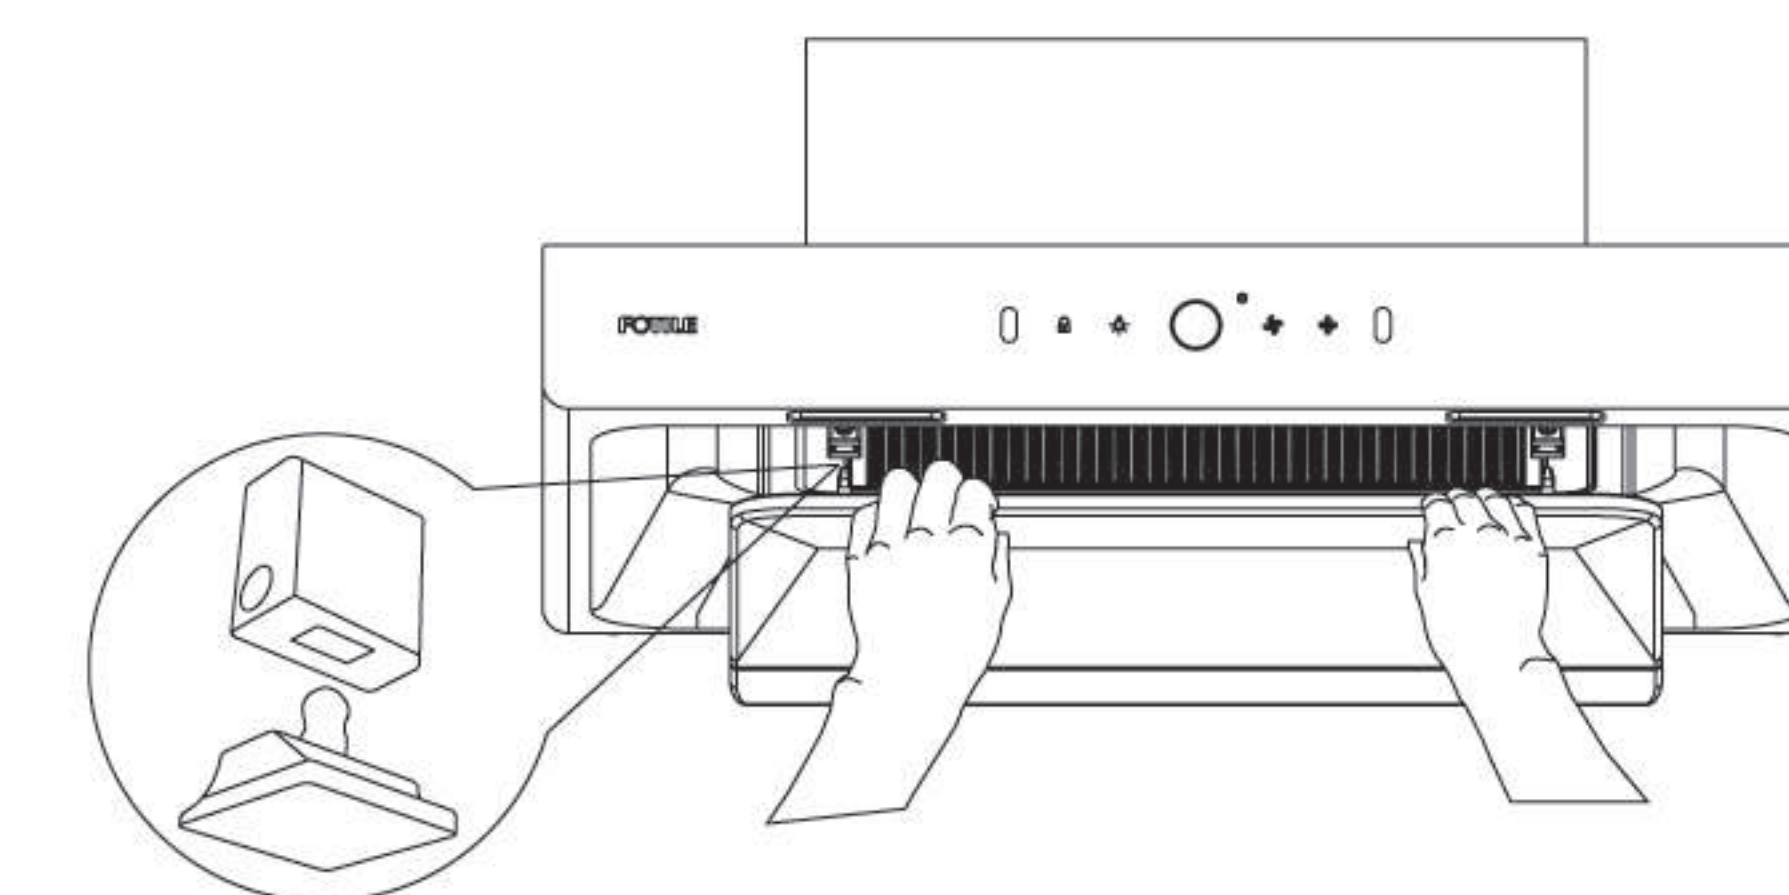
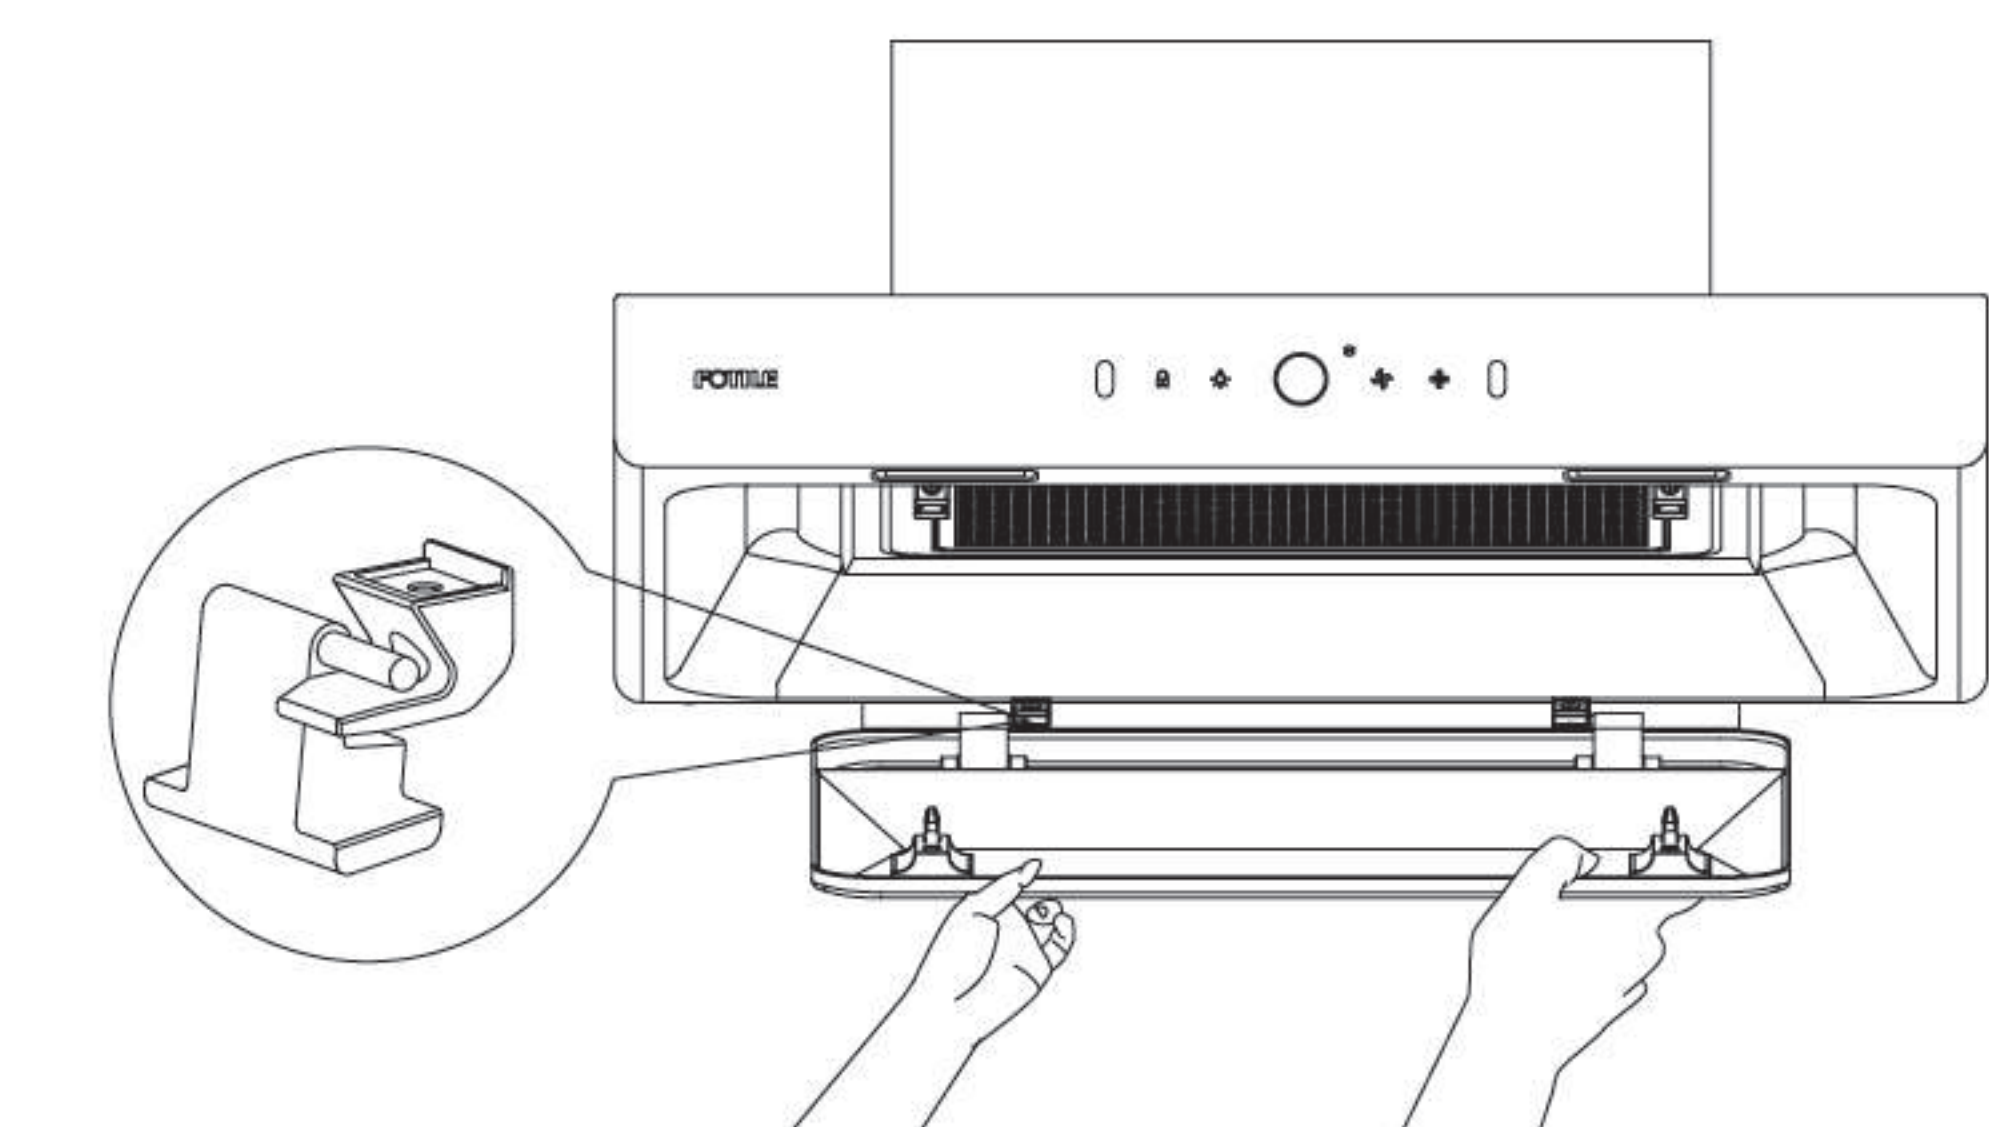

Fig.1
Fig.2
1. Grasp the front edge of wing plate with hands, pull it down to detach the locking tab of the wing plate (Fig. 1). Then flip it down at a certain angle, and remove the wing plate horizontally with hands finally (Fig. 2).
1. First remove the wing plate (see Fig. 1 and Fig. 2);